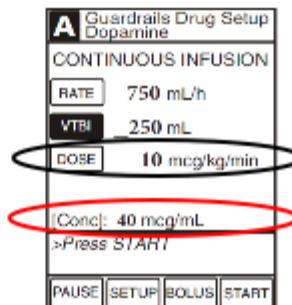

Figure 5. PC unit programming screen
- 10 in the “DOSE” field (Figure 5)